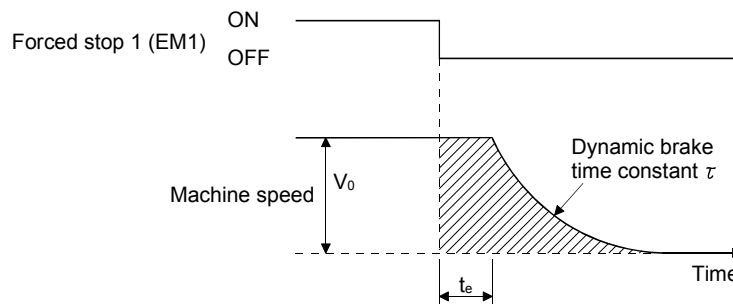

Fig. 13.2 Dynamic Brake Operation Diagram
Fig. 13.2 shows the pattern in which the servo motor comes to a stop when the dynamic brake is operated. Use Equation 13.1 to calculate an approximate coasting distance to a stop. The dynamic brake time constant  $\tau$  varies with the servo motor and machine operation speeds. (Refer to (1) (b) in this section. Please contact your local sales office for the servo motor not indicated.)